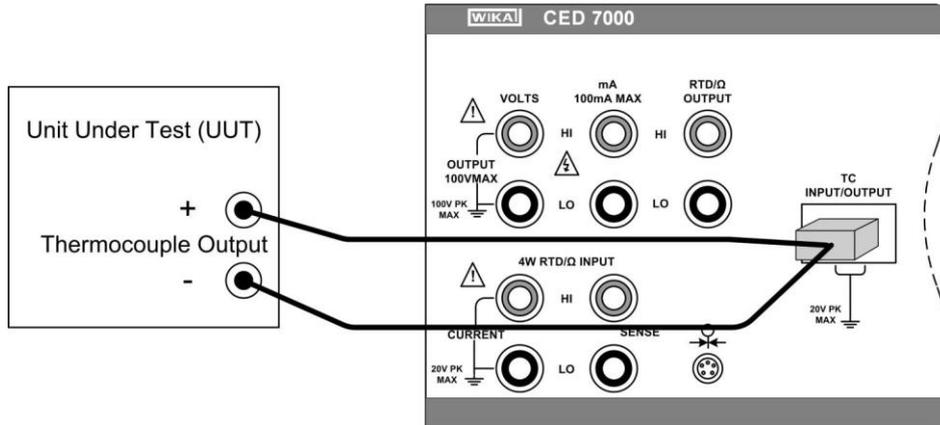

Figure 14 - Thermocouple Input Connection
- e) Connect the unit under test to the thermocouple terminals of the CED 7000 using a standard T/C miniplug as shown in figure 14. One pin is wider than the other; do not attempt to force the plug in the wrong polarization. The T/C wire used for the connection must match the thermocouple type selected for proper cold junction compensation. If the CED 7000 and the T/C miniplug are at different temperatures, wait at least 3 minutes for the miniplug and terminals to stabilize to the same temperature.